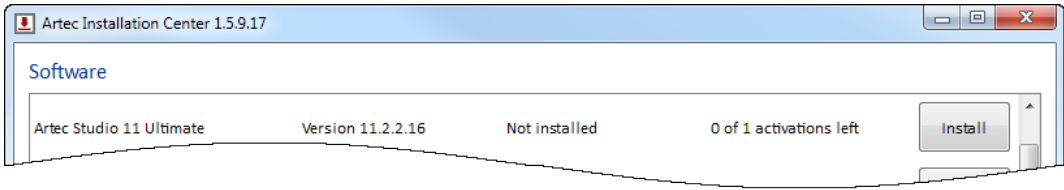

Figure 4.6: Artec Installation Center is ready to install Artec Studio.
- Through Artec Installation Center (either during the installation process or by clicking *Install* in the application, as Figure 4.6 shows)